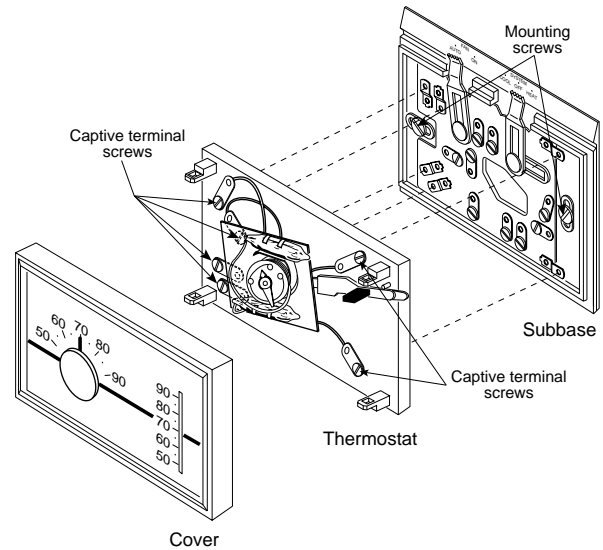

Figure 4. Attach thermostat to subbase
3. Attach thermostat base to subbase. Be sure that all captive screws are tightened snugly, because they serve as electrical connections between thermostat and subbase (see fig. 4).